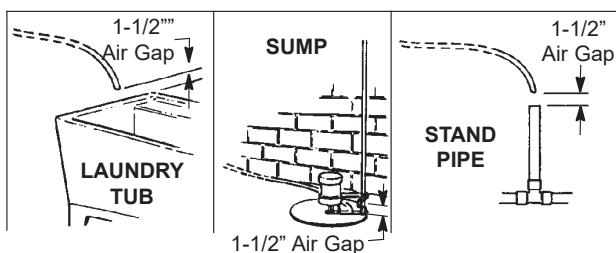

FIG. 8
- Take a length of 5/8" inside diameter garden hose and attach to the valve drain fitting (See Figure 8 on page 6).
- Locate the other end of the hose at a suitable drain point (floor drain, sump, laundry tub, etc.). Check and comply with local codes. Refer to Figure 8 on page 6 if codes require a rigid pipe drain run.
- Place bypass valve(s) into "bypass" position. On a single valve, slide the stem inward to BYPASS (See Fig. 8 on page 6). On a 3 valve system, close the inlet and outlet valves, and open the bypass valve (See Fig. 7 on page 6).